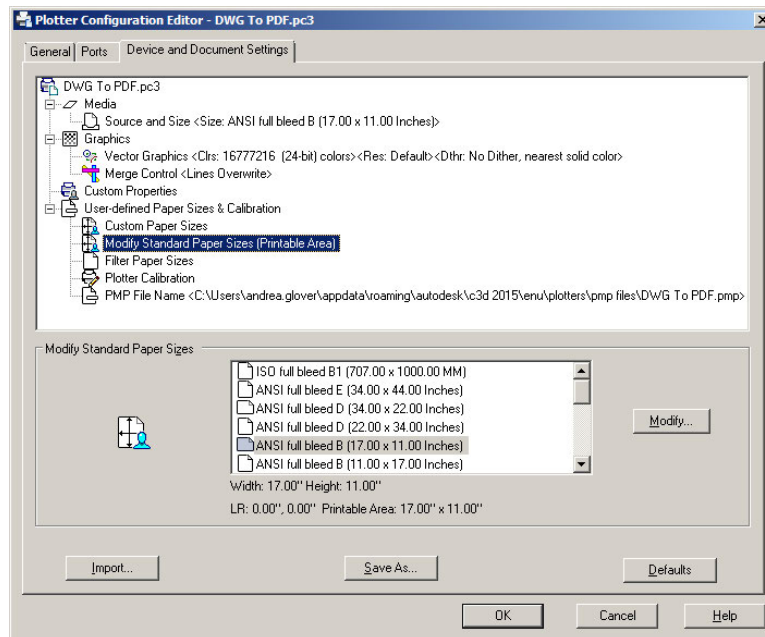

Figure 40-Plotter Configuration Menu-Device and Document Settings Tab
- a. Click on the "Devices and Document Settings" tab (Figure 40). Click Custom Properties, then click the Custom Properties... button.
- g. Once these changes are made, click OK. This returns you to Figure 40.
- c. Once you have modified all of the ANSI full bleed paper sizes, click "OK" on the Plotter Configuration Editor window (Figure 40).